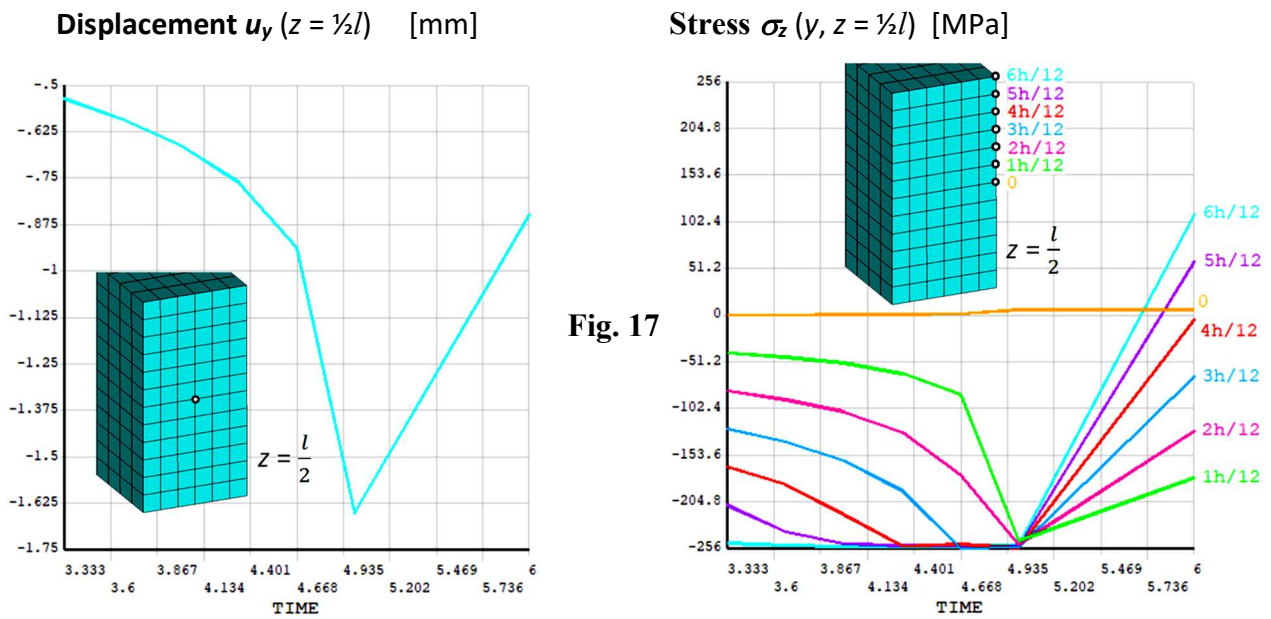

Fig. 17
14. Read the displacement  $U_y$  and stress component  $S_z$  in the cross-section  $z = \frac{1}{2}l$  as a function of time, (Main Menu>TimeHist Postpro>Variable Viewer) and save the graphs as images (Fig. 17).